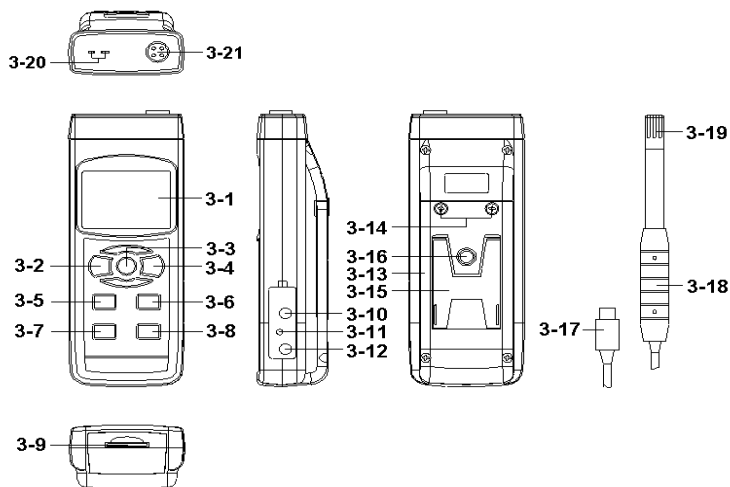

Fig. 1
(3-2, Fig. 1) > 1.5 seconds continuously.
* *Pressing the " Power Button " (3-2, Fig. 1)
Pressing the " Function Button " (3-3, Fig. 1)
just release the " Function Button " (3-3, Fig. 1), the
- a. Plug the " Probe Plug " (3-17, Fig. 1) into the " Probe Input Socket " (3-21, Fig. 1).
- b. Power on the meter by pressing the " Power Button " (3-2, Fig. 1).
- b. install the Humidity " Probe Plug " (3-17),into the " Probe Input Socket " (3-21, Fig. 1).
- c. Plug the Thermocouple Temp. Probe (Type K Temp. probe or Type J Temp. probe, optional) into " Type K/J Probe Input Socket " (3-20, Fig. 1)
- Plug the " Probe Plug " (3-17, Fig. 1) into the " Probe Input Socket " (3-20, Fig. 1).
- Power on the meter by pressing the " Power Button " (3-2, Fig. 1).
During the measurement, press the " Hold Button " (3-3, Fig. 1) once will hold the measured value & the LCD will display a " HOLD " symbol.
- 1) The data record function records the maximum and minimum readings. Press the " REC Button " (3-4, Fig. 1) once to start the Data Record function and there will be a " REC. " symbol on the display.
- a) Press the " REC Button " (3-4, Fig. 1) once, the " REC. MAX. " symbol along with the maximum value will appear on the display.
- b) Press the " REC Button " (3-4, Fig. 1) again, the " REC. MIN. " symbol along with the minimum value will appear on the display.
After power ON, the " LCD Backlight " will light automatically. During the measurement, press the " Backlight Button " (3-2, Fig. 1) once will turn OFF the " LCD Backlight ".
Prepare a " SD memory card " (1 G to 16 G, optional), insert the SD card into the " SD card socket " (3-9, Fig. 1). The front panel of the SD card should face against the the down case.
Press the " LOGGER Button (3-8, Fig. 1) >1.5 seconds , the LCD will show the text " LOGGER ", the " LOGGER " will flashing at the same time the measuring data along the time information will be saved into the memory circuit.